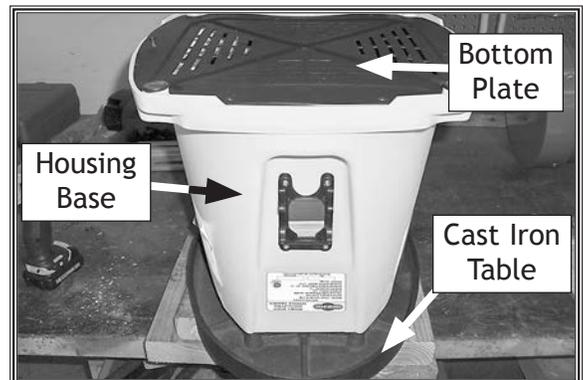

Figure 29. Base and bottom re-installed.
- 27. Re-install housing base (#76) onto cast iron table (#7) shown in **Figure 29**. Ensure that brown wiring (#72) is connected to the rectifier (#69), then re-install bottom plate (#90).